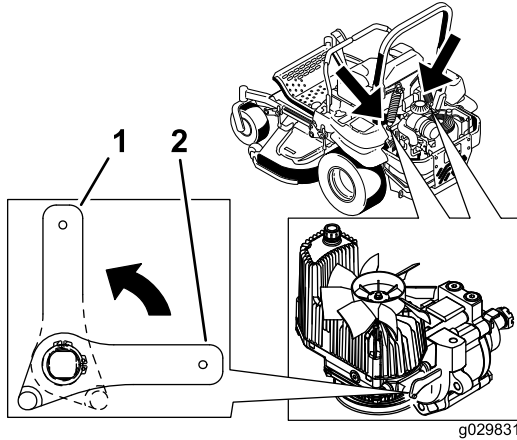

Figure 41
2. Rotate the release valve levers vertically to push the machine (Figure 41).
4. Rotate the release valve levers horizontally to run the machine (Figure 41).